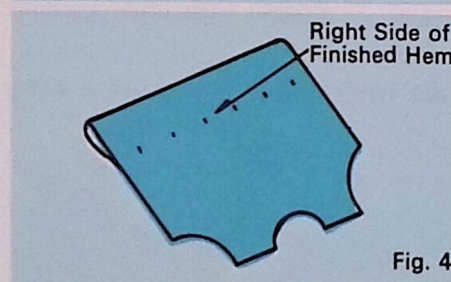

Fig. 4
4. Press both sides of the finished hem. The right side of the garment will show only the blind stitches. (Fig. 4)